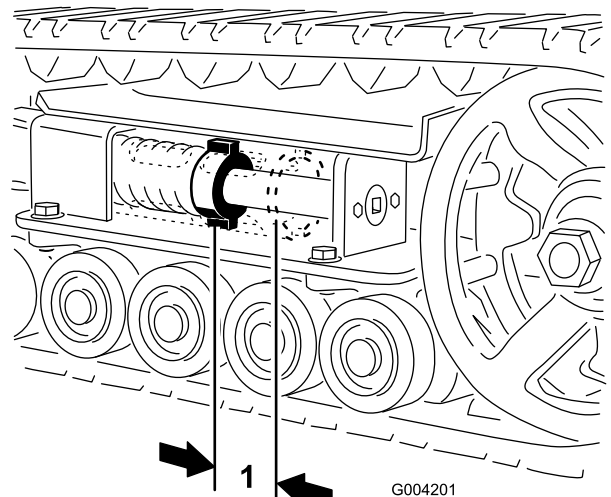
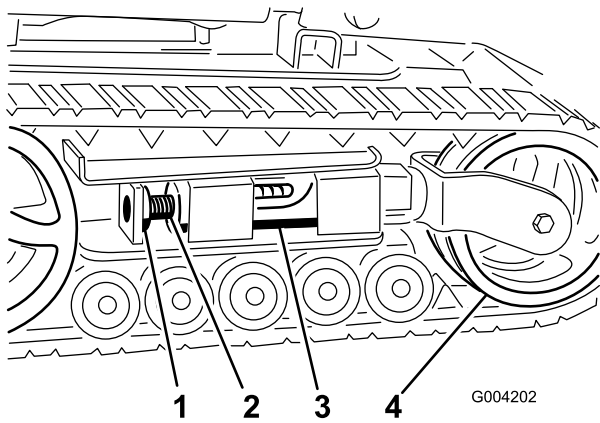
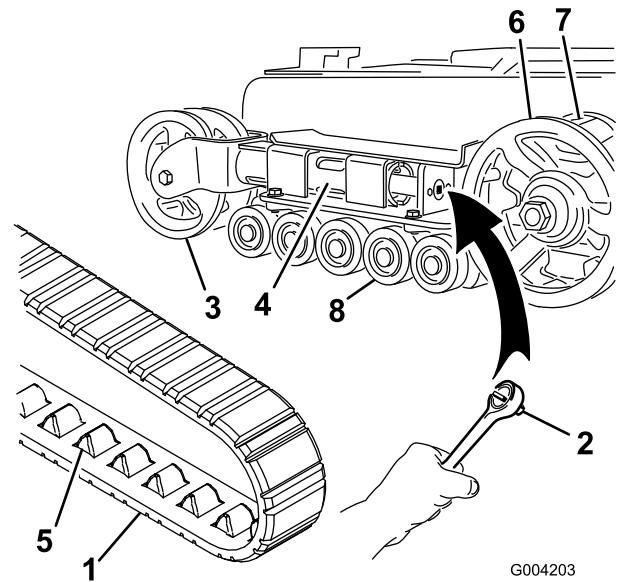
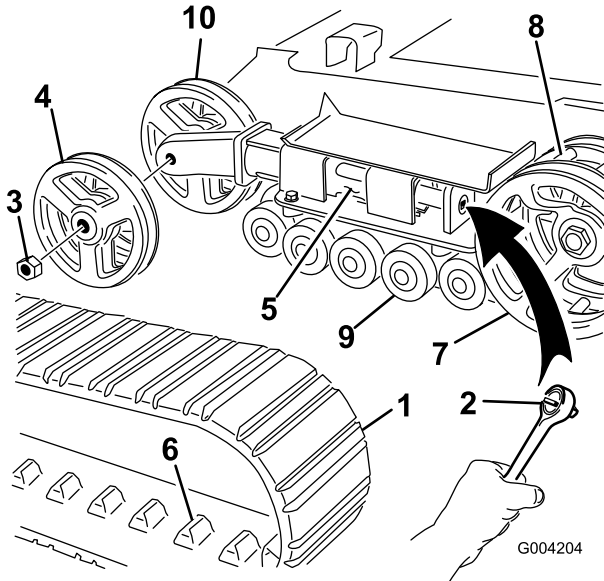

Figure 43
Figure 44
Figure 45
Figure 46
There should be 2-3/4 inches (7 cm) between the tension nut and the back of the tension tube (Figure 43). If not, adjust the track tension using the following procedure:
3. Remove the locking bolt and nut (Figure 44).
4. Using a 1/2 inch drive socket (Figure 45), turn the tensioning screw counter-clockwise until the distance between the tension nut and the back of the tension tube (Figure 43) is 2-3/4 inches (7 cm).
5. Align the closest notch in the tension screw to the locking bolt hole and secure the screw with the locking bolt and nut (Figure 44).
4. Using a 1/2 inch drive socket, release the drive tension by turning the tensioning screw clockwise (Figure 44 and Figure 45).
5. Push the tension wheel toward the rear of the unit to move the fork tube against the frame (Figure 45). (If it does not touch the frame, continue turning the tensioning screw until it does.)
7. When the track is off of the tension wheel, remove it from the drive sprocket and road wheels (Figure 45).
8. Beginning at the drive sprocket, coil the new track around the sprocket, ensuring that the lugs on the track fit between the spacers on the sprocket (Figure 45).
9. Push the track under and between the road wheels (Figure 45).
11. Turn the tensioning screw counter-clockwise until the distance between the tension nut and the back of the fork tube (Figure 43) is 2-3/4 inches (7 cm).
4. Using a 1/2 inch drive socket, release the drive tension by turning the tensioning screw clockwise (Figure 44 and Figure 46).
5. Push the tension wheel toward the rear of the unit to move the tension tube against the frame (Figure 46). (If it does not touch the frame, continue turning the tensioning screw until it does.)
6. Remove the nut securing the outer tension wheel and remove the wheel (Figure 46).
7. Remove the track (Figure 46).
8. Remove the nut securing the inner tension wheel and remove the wheel (Figure 46).
12. Install the inner tension wheel and secure it with the nut removed previously (Figure 46).
14. Install the new track, ensuring that the lugs in the track fit between the spacers in the middle of the drive sprocket (Figure 46).
15. Install the outer tension wheel and secure it with the nut removed previously (Figure 46).
17. Turn the tensioning screw counter-clockwise until the distance between the tension nut and the back of the tension tube (Figure 43) is 2-3/4 inches (7 cm).